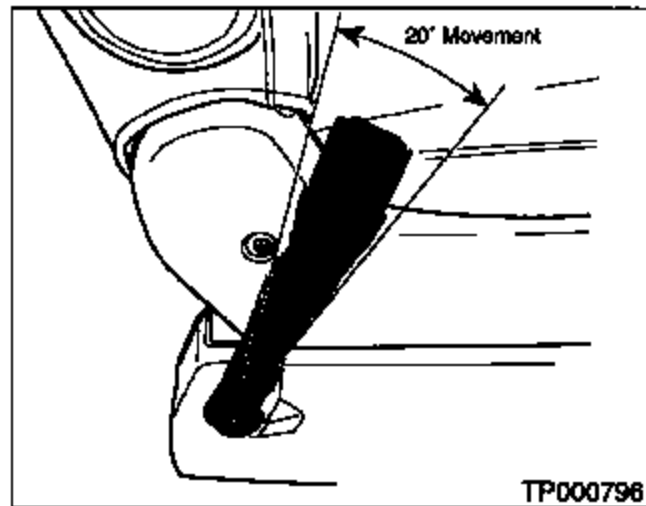

Figure 22
5. Confirm the seat belt buckle can freely move (back and forth) about 20 degrees (see Figure 22). If the buckle cannot be freely moved (i.e., there is stiff or no movement), loosen and re-tighten the buckle mounting bolt ensuring the buckle trim cover does not get caught between the buckle and the seat.